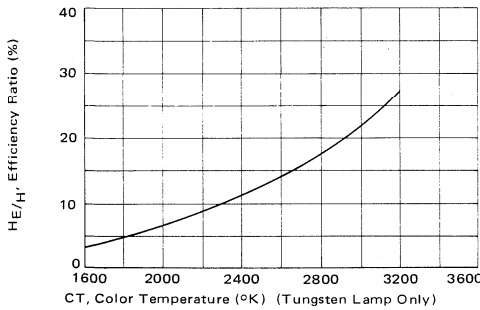

FIGURE 18 – MRD Irradiance Ratio versus Color Temperature
Graphical integration of equations (2b) and (26) has been performed for the MRD series of phototransistors for several values of lamp color temperature. The results are given in Figures 18 and 19 in terms of ratios. Figure 18 provides the irradiance ratio, H_E/H versus color temperature. As the curve shows, a tungsten lamp operating at 2600°K is about 14% effective on the MRD series devices. That is, if the broadband irradiance of such a lamp is measured at the detector and found to be 20 mW/cm^2 , the transistor will effectively see
However, from Figure 18, the effective irradiance is